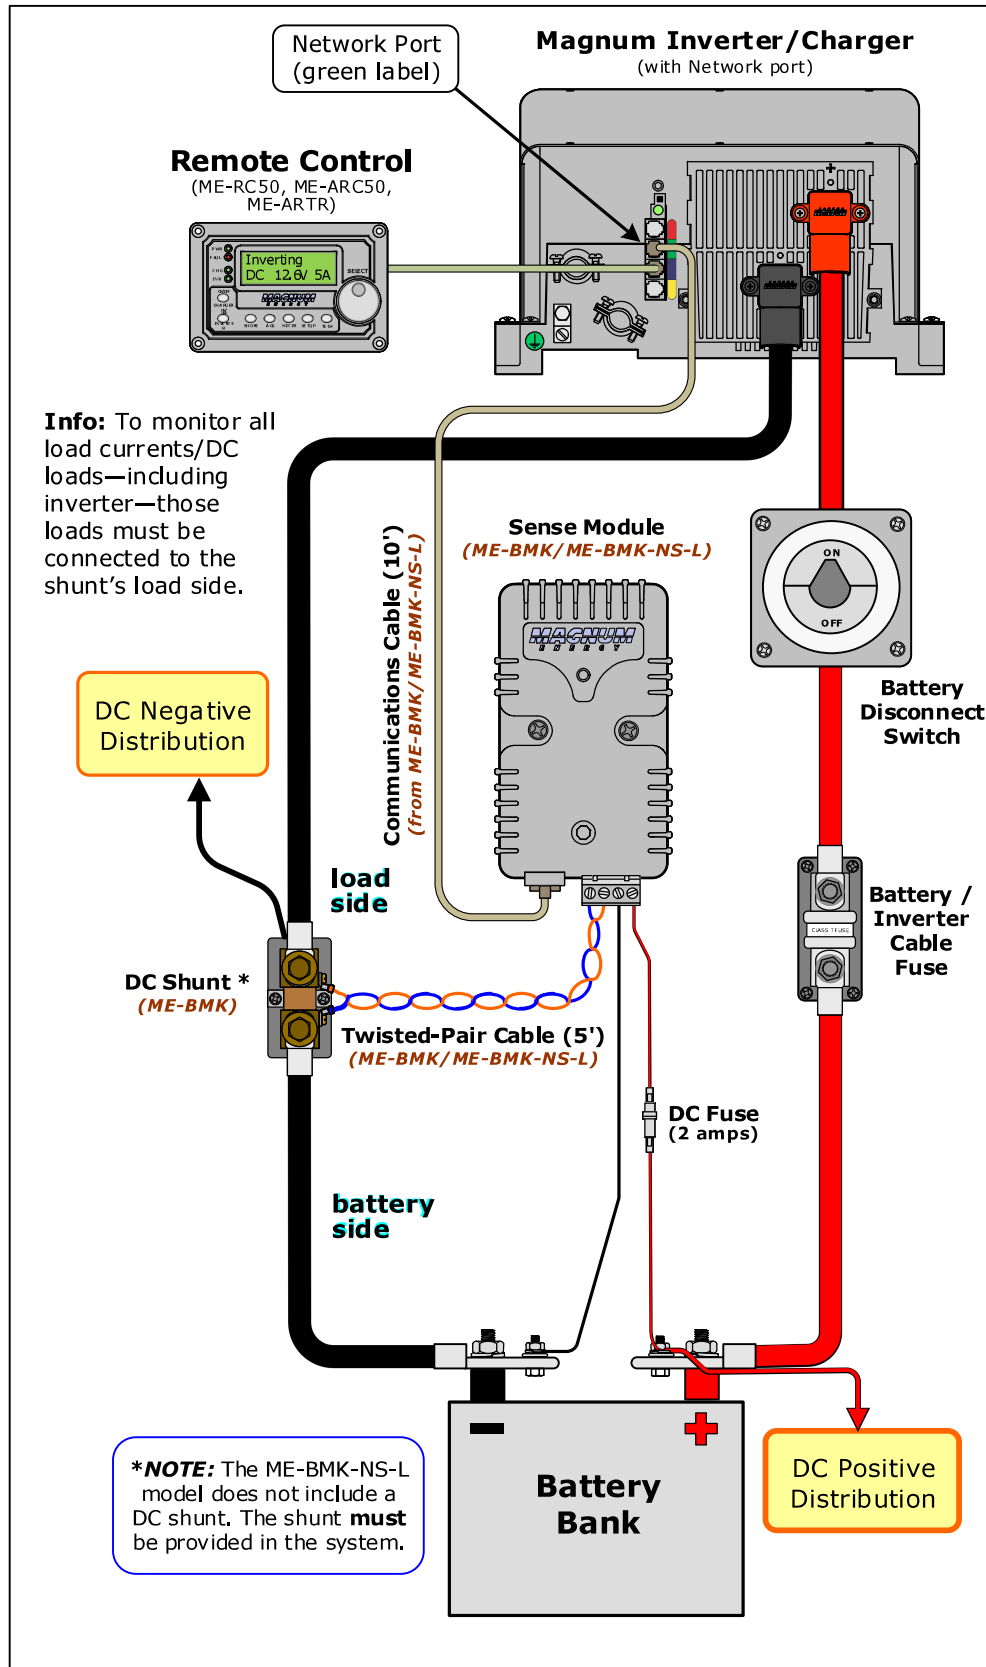

Figure 2-1, ME-BMK Basic Installation Diagram
Before installing, read this entire section to thoroughly plan the details to ensure your overall system requirements are accomplished. To assist in planning and designing the installation, review the basic diagram in Figure 2-1. If installing another network device besides the ME-BMK, refer to Sections 2.2.3 and 2.2.4 for options.
1. Using an appropriate sized cable, connect the inverter's DC negative terminal to the DC shunt's load side (per Figure 2-1).
1. Connect one end of the communication cable to the inverter's network port, and then connect the other end to the network port on the BMK sense module. See Figure 2-1.
4. Using the supplied 5' twisted-pair wire: a) Connect the ring terminal end of the blue wire to the small screw on the **battery side** of the shunt; then, b) Connect the ring terminal end of orange wire to the small screw on the **load side** of the shunt. Use Figures 2-1 & 2-2 as guides before connecting.